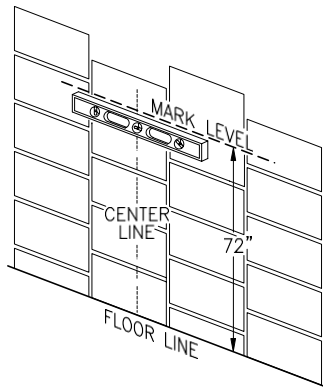

Figure 3 - Center-line Mark
1. Determine and mark the vertical center line for installation of the AutoSwitch console. (Figure 3).